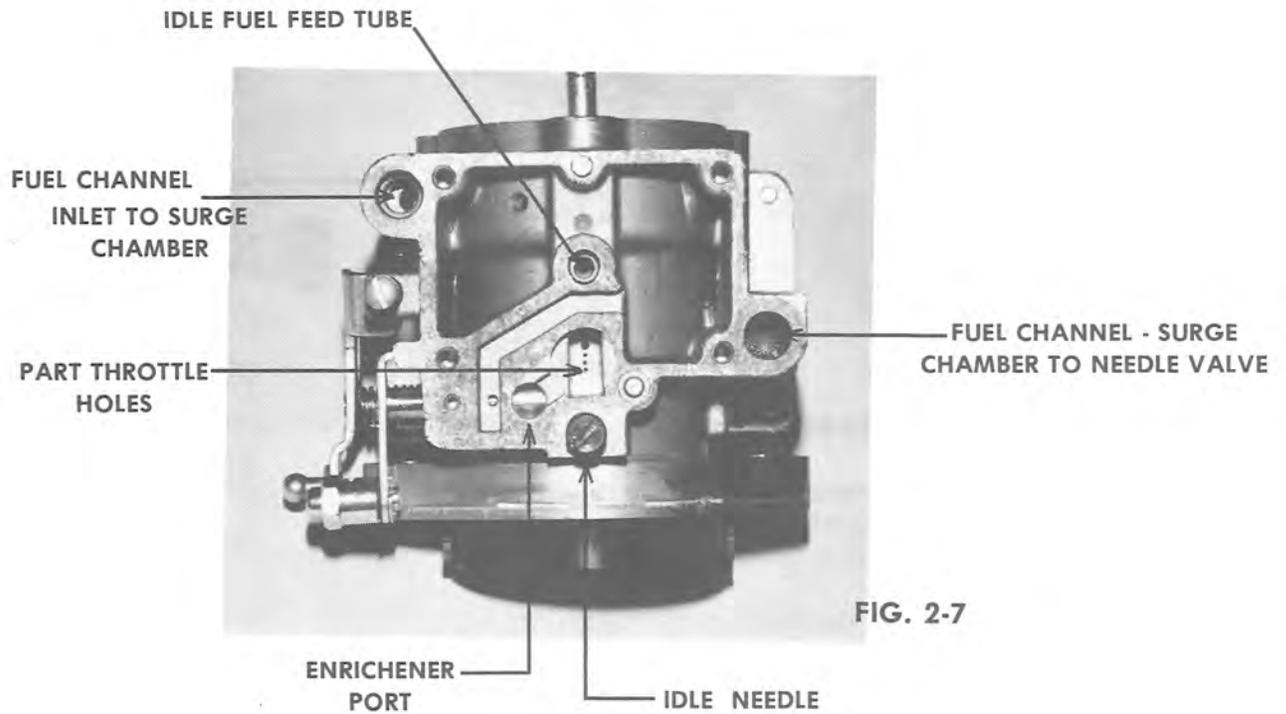

FIG. 2-7
3. Inspect all parts, openings, needles, valves, valve seats and any other functioning part for clogging or damage. (See Fig. 2-7).